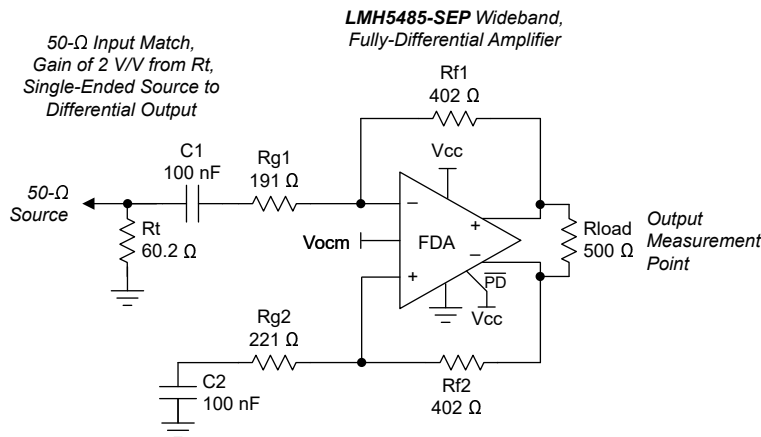
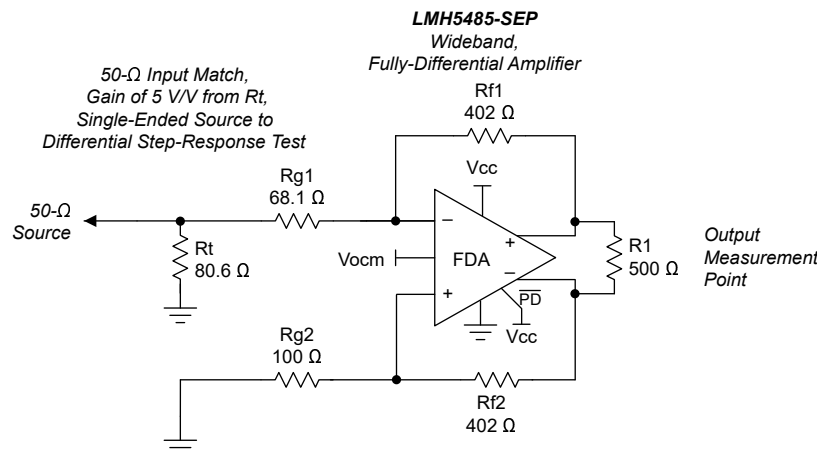
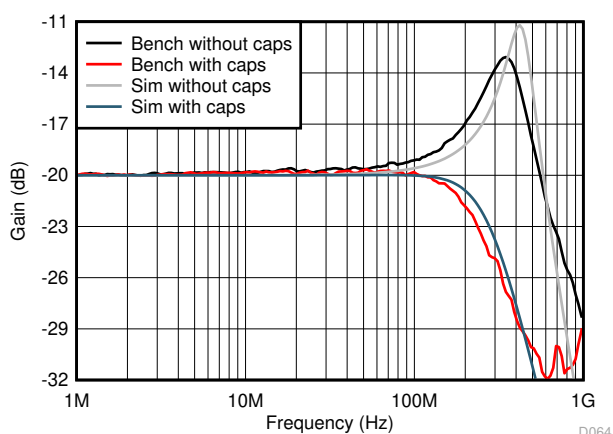

Figure 8-1. AC-Coupled, Single-Ended Source to a Differential Gain of a 2 V/V Test Circuit
Figure 8-2. DC-Coupled, Single-Ended-to-Differential, Basic Test Circuit Set for a Gain of 5 V/V
FIG 10-3. Attenuator Response Shapes with and without External Compensation
50 MHz input, 0.5-ns input edge rate, single-ended to differential output, split supply, DC-coupled, see Figure 8-2
50 MHz input, 0.5-ns input edge rate, single-ended input to differential output, split supply, DC coupled, see Figure 8-2
2 V_{pp} output, see Figure 8-1 with $V_{S+} = 3\text{ V}$, $V_{OCM} = 1.5\text{ V}$
Single-ended input to differential output, simulated differential output impedance, see Figure 8-1
Single-ended input to differential output, gain of 2 (see Figure 8-1), simulated with 1% resistor, worst-case mismatch
Single-ended to differential, gain of 2 (see Figure 8-1) PSRR simulated to differential output
The LMH5485-SEP offers the advantages of a fully differential amplifier (FDA) design, with the trimmed input offset voltage of a precision op amp. The FDA is an extremely flexible device that provides a purely differential output signal centered on a settable output common-mode level. The primary options revolve around the choices of single-ended or differential inputs, AC-coupled or DC-coupled signal paths, gain targets, and resistor Value selections. Differential sources can certainly be supported and are often simpler to both implement and analyze. Examples of both AC and DC coupled single-ended to differential circuits is shown in Figure 8-1 and Figure 8-2.
Figure 8-1 shows how most characterization plots fix the R_f value at 402 Ω . This value is completely flexible in application, but the 402 Ω provides a good compromise for the issues linked to this value, specifically:
- Added output loading. The FDA appears like an inverting op amp design with both feedback resistors as an added load across the outputs (approximate total differential load in Figure 8-1 is 500 Ω || 804 Ω = 308 Ω).
The outputs offer near rail-to-rail output swing (0.2 V headroom to either supply), while the device inputs are negative rail inputs with approximately 1.2 V of headroom required to the positive supply. Figure 8-2 shows how this negative rail input directly supports a bipolar input around ground in a DC-coupled, single-supply design. Similar to all FDA devices, the output average voltage (common-mode) is controlled by a separate common-mode loop. The target for this output average is set by the V_{OCM} input pin that can be either floated to default near mid-supply or driven to a desired output common-mode voltage. The V_{OCM} range extends from a very low 0.91 V above the negative supply to 1.1 V below the positive supply, supporting a wide range of modern analog-to-digital converter (ADC) input common-mode requirements using a single 2.7 V to 5.4 V supply range for the LMH5485-SEP.
Going to the device input pins side, because both the source and balancing resistor on the nonsignal input side are DC blocked (see Figure 8-1), no common-mode current flows from the output common-mode voltage, thus setting the input common-mode equal to the output common-mode voltage.
Operating the LMH5485-SEP at a low DC noise gain, or with higher feedback resistors, can cause a lower phase margin to exist, giving the response peaking shown in Figure 10-3 for the gain of 0.1 (a 1/10 attenuator) condition. Although it is often useful operating the LMH5485-SEP as an attenuator (taking a large input range to a purely differential signal around a controlled-output, common-mode voltage), the response peaking illustrated in Figure 10-3 is usually undesirable. Several methods can be used to reduce or eliminate this peaking; usually, at the cost of higher output noise. Using DC techniques always increases the output noise broadband, while using an ac noise-gain-shaping technique peaks the noise, but only at higher frequencies that can then be filtered off with the typical passive filters often used after this stage. Figure 10-1 shows a simplified schematic for the gain of 0.1 V/V test from Figure 8-1.
This configuration simulates to a nominal 18° phase margin; therefore, a very highly-peaked response is shown in Figure 10-3. This peaking can be eliminated by placing two feedback capacitors across the Rf elements and a differential input capacitor. Adding these capacitors provides a transition from a resistively set noise gain to a capacitive divider at high-frequency flattening out to a higher noise gain (NG2 here). The key for this approach is to target a Zo, where the noise gain begins to peak up. Using only the following terms, and targeting a closed-loop flat (Butterworth) response, gives this solution sequence for Zo and then the capacitor values.
The 1 pF across the inputs is really a total 1.9 pF, including the internal differential capacitance. These two designs (with and without the capacitors) were both bench tested and simulated using the LMH5485-SEP TINA model giving the results of FIG 10-3.